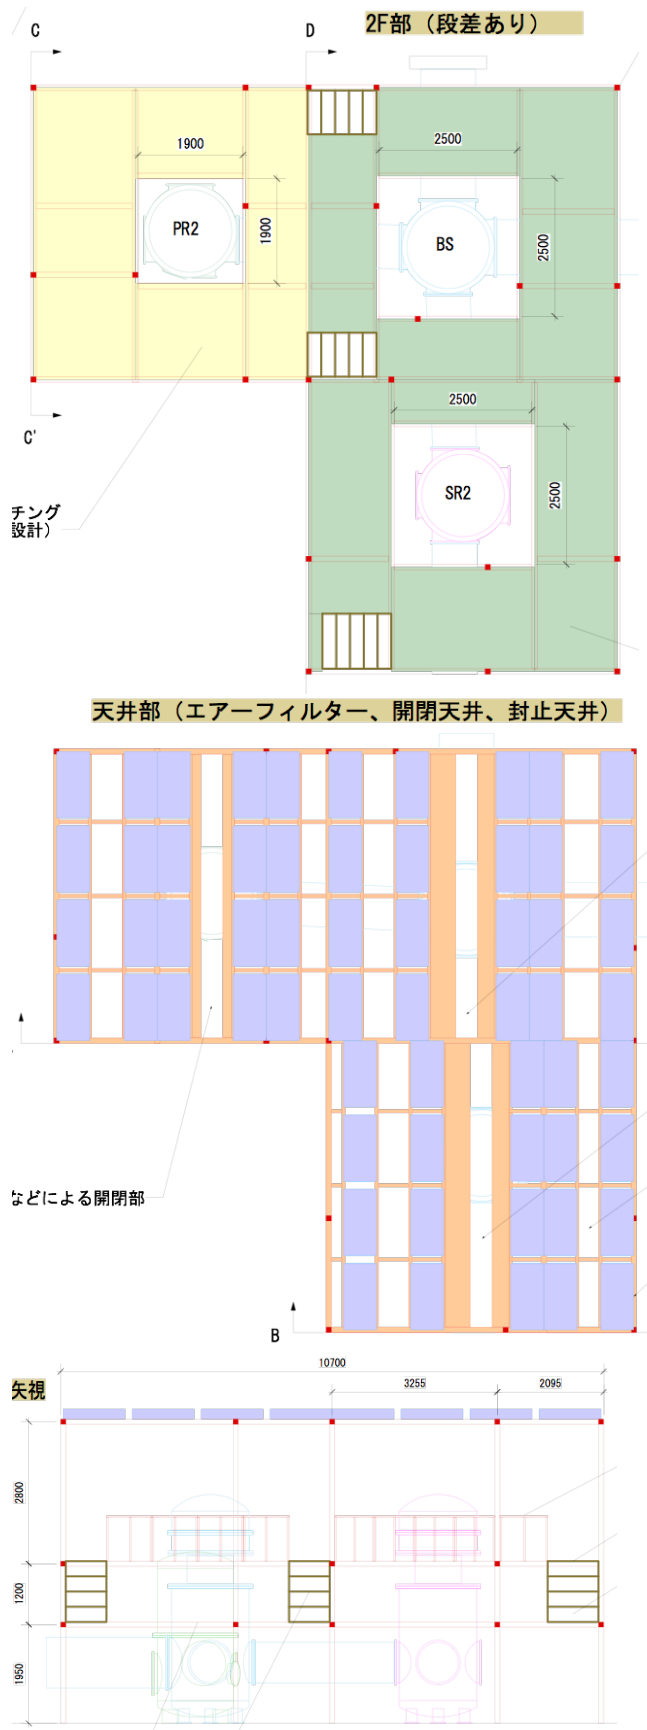
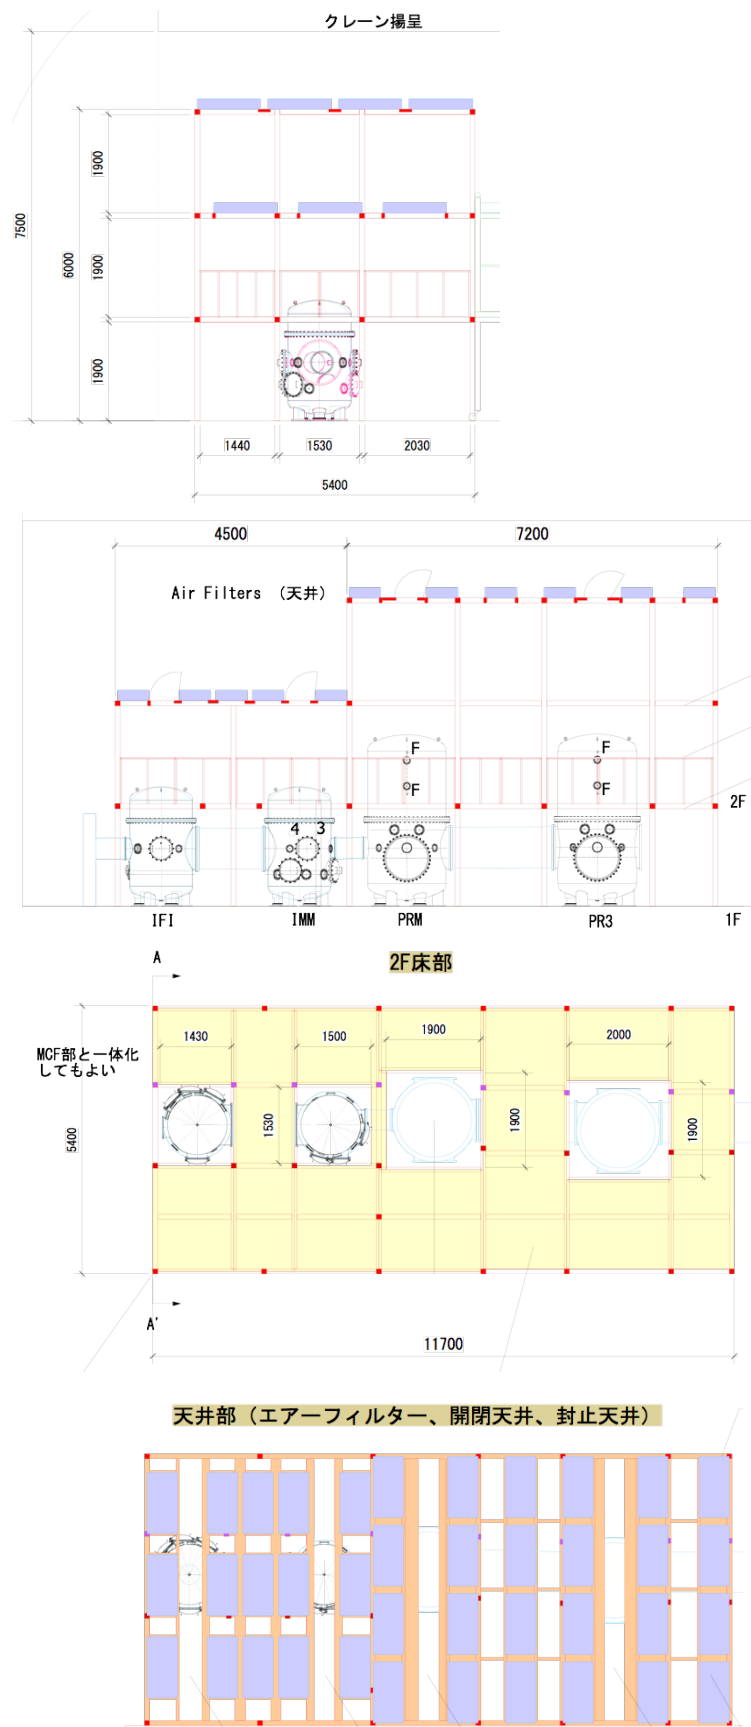

Figure 2 - Cleanbooth around PR2 (and BS/SR2)
Figure 3 - Cleanbooth around PR3/PRM (and IMM/IFI)
- The crane hook access slots in the cleanbooth ceiling only run one way (see Figure 2 and Figure 3) so the assembly has to be done at a position somewhere along that line.